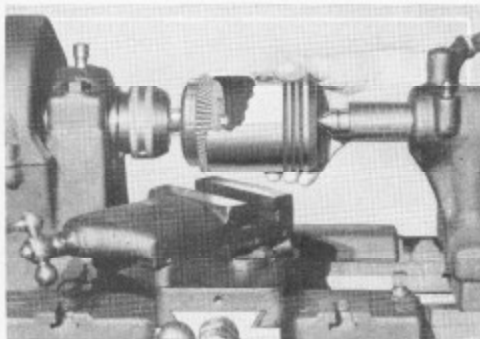

Fig. 48. Reaming Bevel of Piston Skirt in the Lathe
**To True the Bevel Edge of the Piston.**—Place the correct size reamer on the No. 44 Piston Adapter Shank and mount the piston as shown in Figure 48. Pass a wooden peg through the wrist pin hole of the piston and turn the piston slowly with the left hand. (Do not start the lathe spindle.) At the same time feed the piston against the reamer by turning the tailstock hand wheel with the right hand. Remove only enough stock with the reamer that the beveled edge will be round and true.